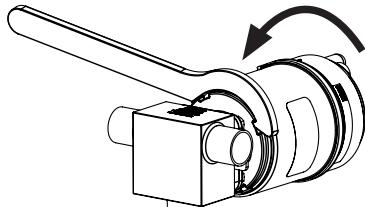

Fig. 13: Align actuator
- Rotate actuator using a hook wrench. See “Fig. 13”.
- Connect the control medium to the pilot air port 1 of the actuator (see "Fig. 13: Align actuator").